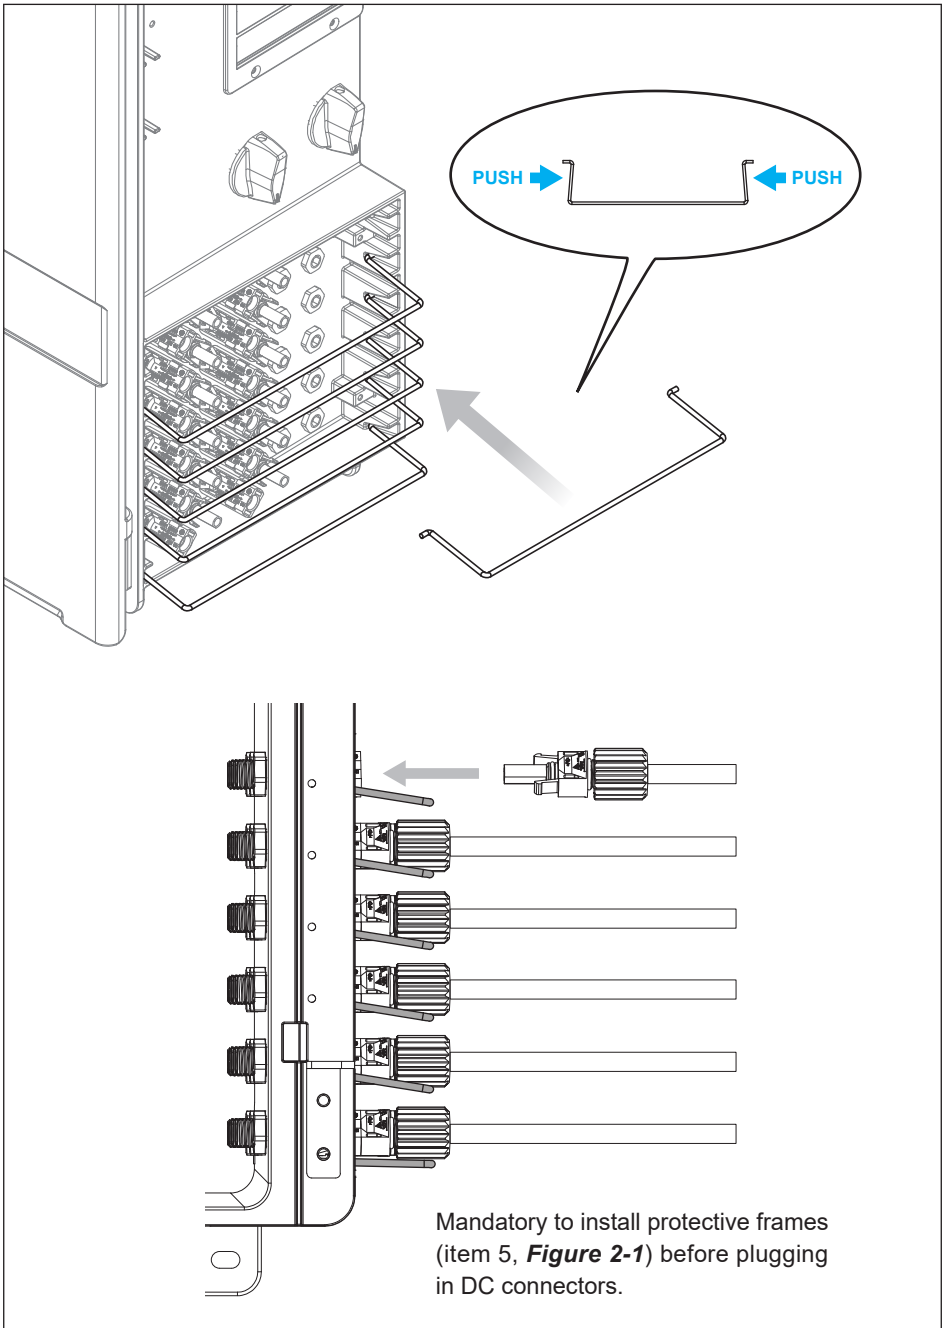

Figure 3-17: Installation methods for protective frame
- Before plugging in DC connectors, insert the protective frame (item 5, **Figure 2-1**) for DC connector as **Figure 3-17**.